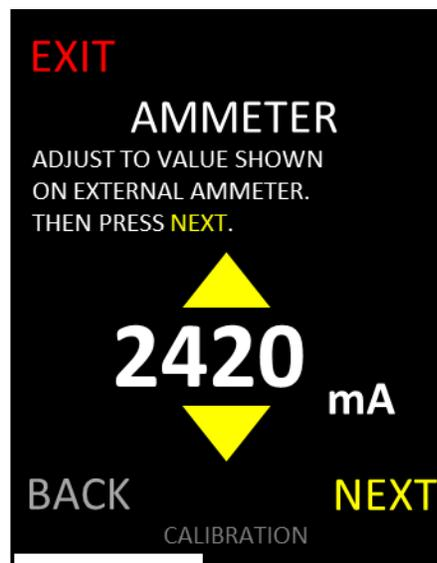

Figure 15. Current at 2Ω Load
- 7.3 Use arrows on the Touchscreen to match the value shown on the Touchscreen with the reading on the digital ammeter (Figure 15). Select NEXT to continue. It is recommended to wait for the ammeter value to drop down to the value on the Touchscreen and hit NEXT at the moment they are the same.